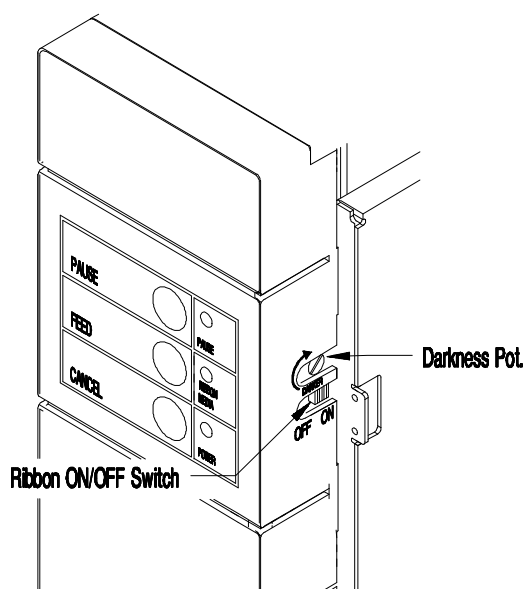

Figure 3-1 Front Panel
The Printer has five (5) operator accessible switches and three (3) LED indicators, (*see Figure 3-1*). A brief description of the switches and LED indicators is listed in this section.